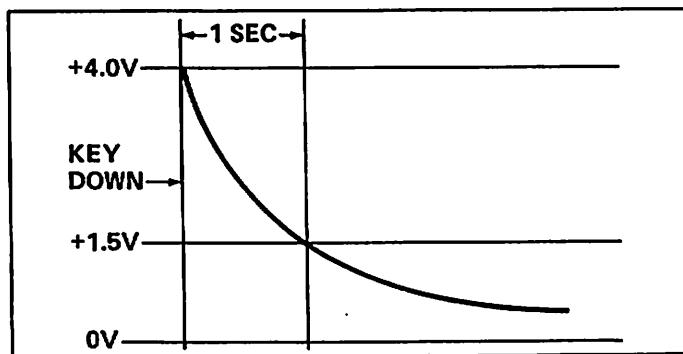

FIGURE 4-10 LOUDNESS DECAY AT JUNCTION OF R165 AND R166
- c) Observe waveform at junction of R165 and R166 (Figure 4-3) and adjust amplitude decay trim pot R190 for the decay contour shown in Figure 4-10.